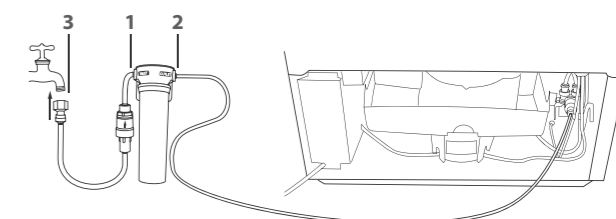

Fig.1 Connection to water supply
- 3 Connect the 200 mm blue tubing to the outlet of the PRV (blue collet) and the inlet connection of the water filter cartridge as shown in Fig.1 Point 1. Gently pull on both ends to ensure it is locked.
- 4 Connect the white 6 mm tubing to the outlet of the water filter cartridge as shown in Fig.1 Point 2. Gently pull to ensure it is locked.
- 7 Connect the tubing to the tap connection and the base of the PRV (white collet) and then to the tap as shown in Fig.1 Point 3. Please note that the tap connection supplied should fit most installation situations.
- 15 The completed installation should look like Fig.1.